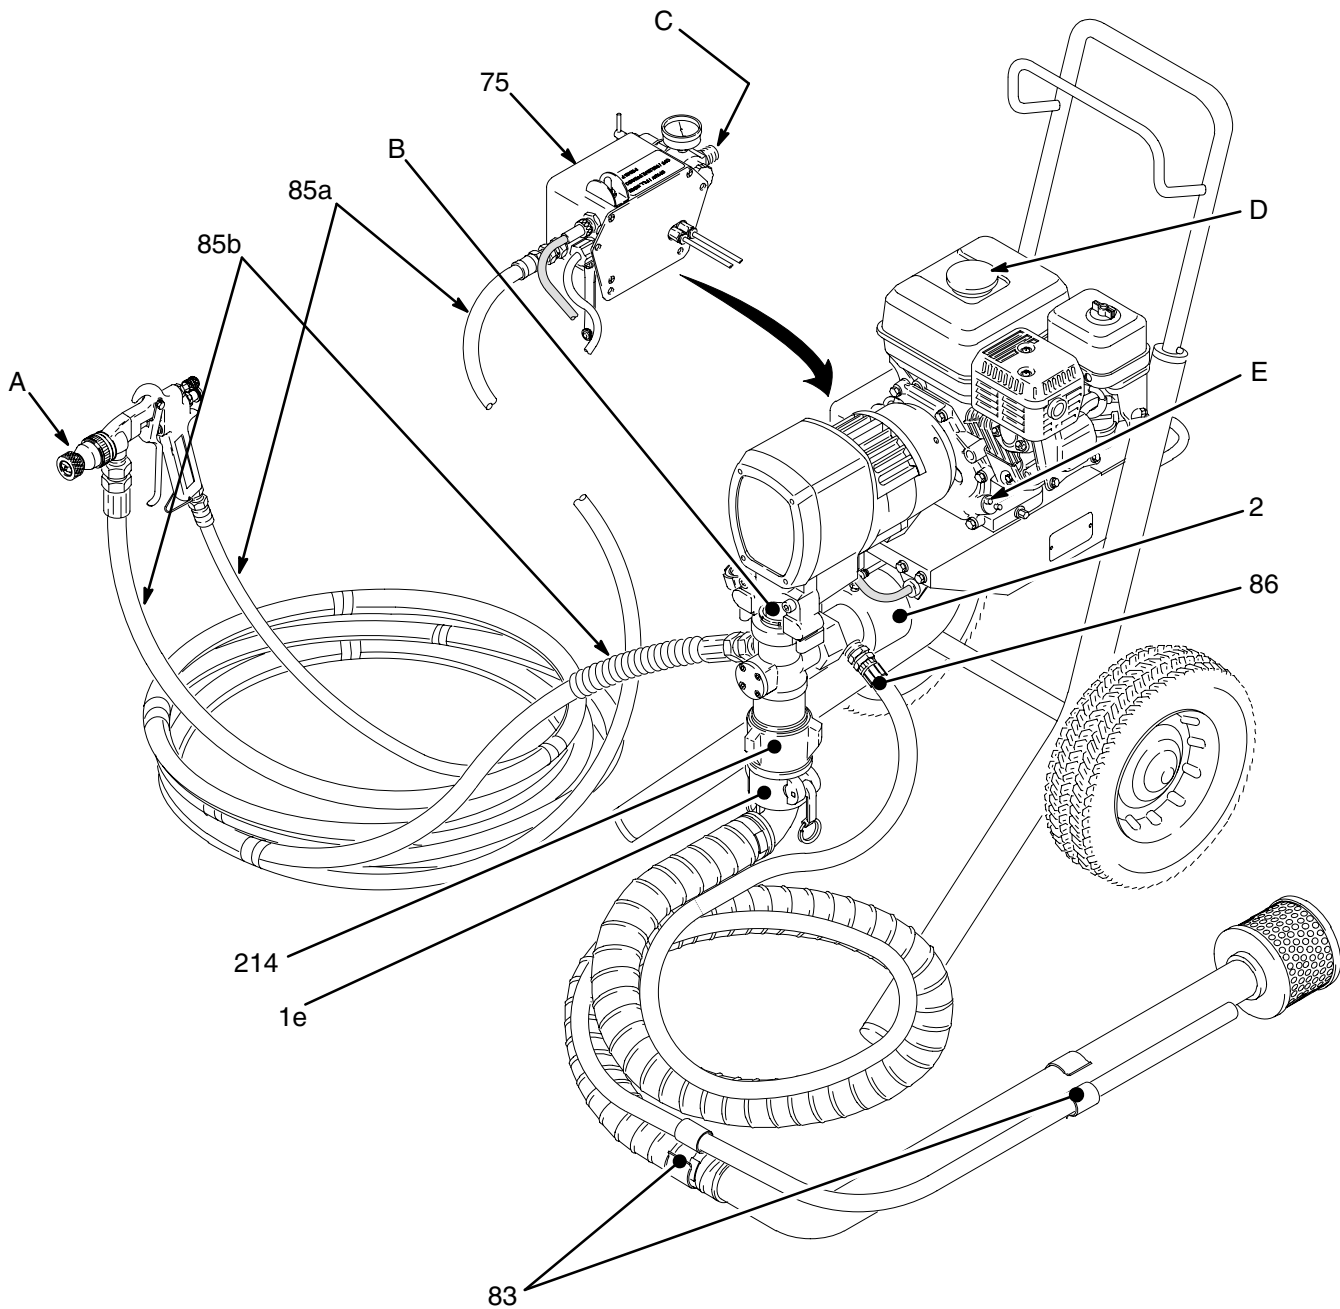

Fig. 5
**NOTE:** Refer to Fig. 5 unless otherwise indicated.